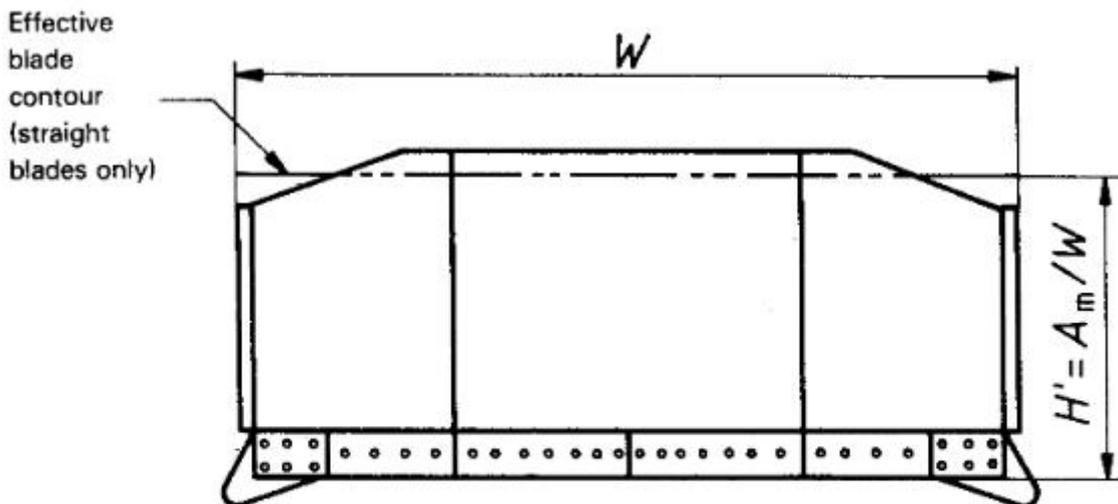

Figure 3 – Straight, semi-U-, U-blade dimensions
**3.1.2 blade width,  $W$**  : Distance, in metres, from outside to outside of the blade, exclusive of the end bits (see figure 3).
**3.1.3 effective blade height,  $H'$**  : Vertical height, in metres, that with  $W$  width, produces a projected area equal to  $A_m$  : i.e.  $H' = A_m/W$  (see figure 3).
**3.1.4 effective blade contour** : Simplified representation of the blade face for calculating the blade capacity based on the vertical plane bounded by  $W$  and  $H'$  (see figure 3).
$V_s$  : Volume of straight, angling, semi-U- and U-blades using the simplified representation of the blade face for calculating the blade capacity shown in figures 3 and 4.